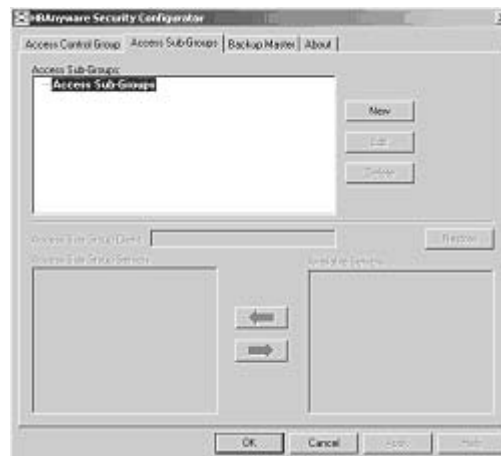

Figure 53: HBAnyware Security Configurator, Access Sub-Groups Tab with No Sub-Groups Created
2. Click the **Access Sub-Group** tab (see Figure 53 on page 94).
1. Click the **Access Sub-Group** tab (see Figure 53 on page 94).